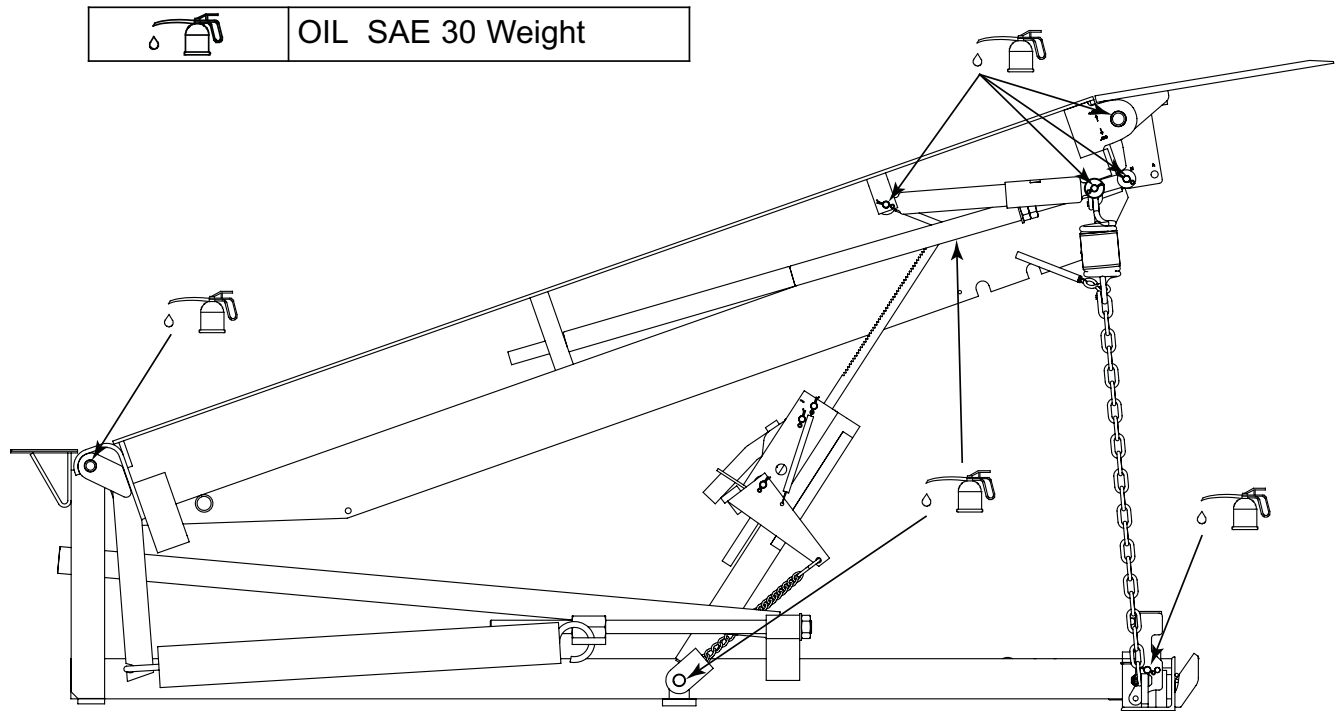

FIGURE 8 - MECHANICAL LEVELER LUBRICATION
4. Lubricate the leveler with the proper lubricants. See figure 8.